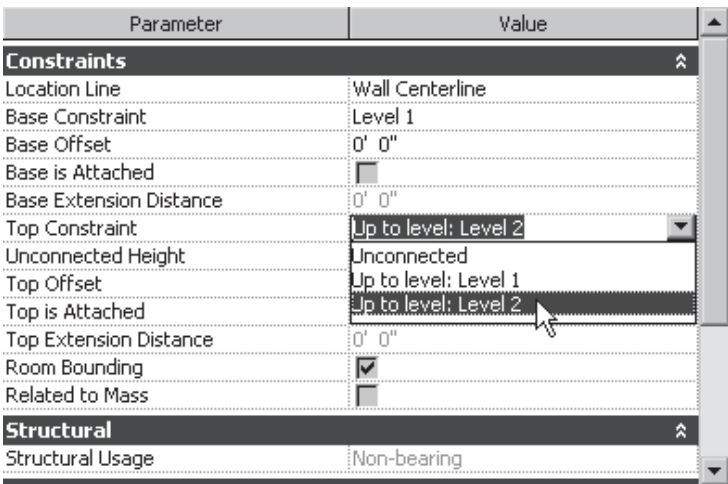

Figure 3-26 Setting the **Top Constraint** parameter using the **Element Properties** dialog box
- d. Modify **Top Constraint- Up to level: Level 2** and **Location Line- Wall Centerline** as wall properties using the **Element Properties** button, refer to Figure 3-26.
- f. Sketch the exterior walls based on the given parameters, refer to Figures 3-26 through 3-35.
2. In the **Element Properties** dialog box, the **Location Line** parameter has **Wall Centerline** as the default value. Click on the field under the **Value** column for the **Top Constraint** instance parameter. Select **Up to Level: Level 2** from this drop-down list, as shown in Figure 3-26. Exit the dialog box by choosing the **OK** button to return to the interface screen.